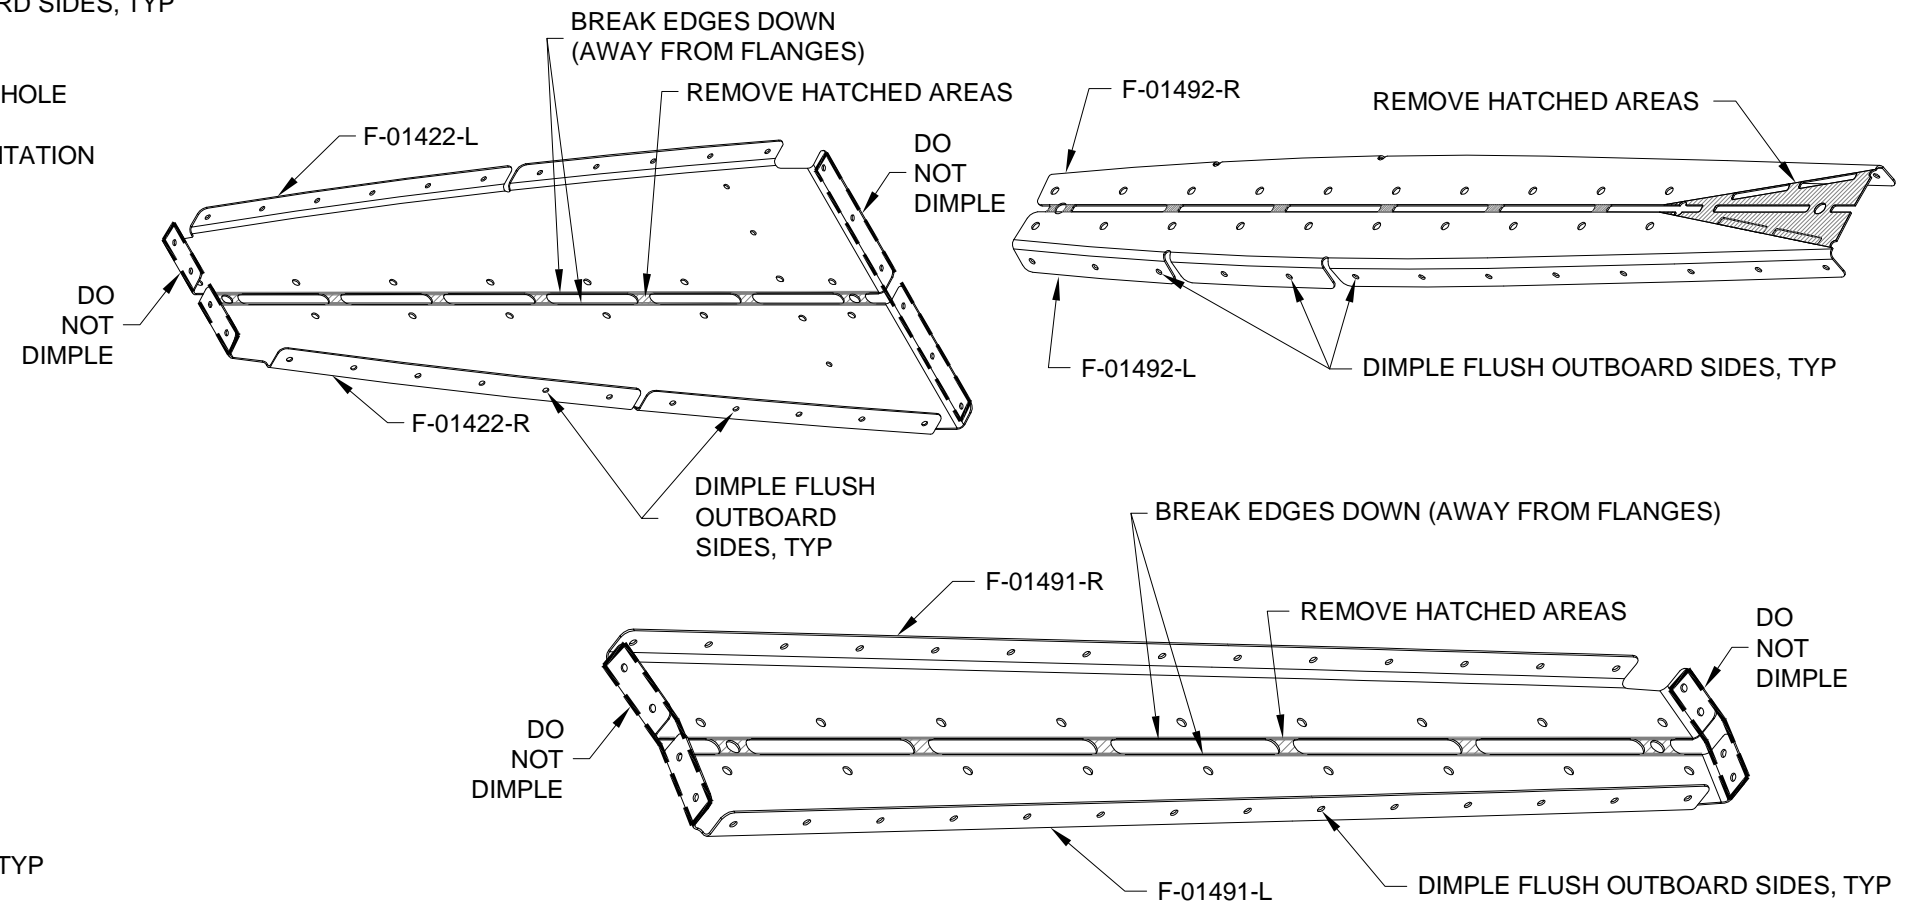

FIGURE 4: FUSELAGE SIDE RIBS
Step 7: Dimple all holes in the outboard flanges of the F-01422-L & -R, F-01491-L & -R and F-01492-L & -R Fuselage Side Ribs. See Figure 4.
Step 8: Label and separate the fuselage side ribs as shown in Figure 4.
Step 9: Break the edges of the F-01422-L & -R and F-01491-L & -R Fuselage Side Ribs as indicated in Figure 4.